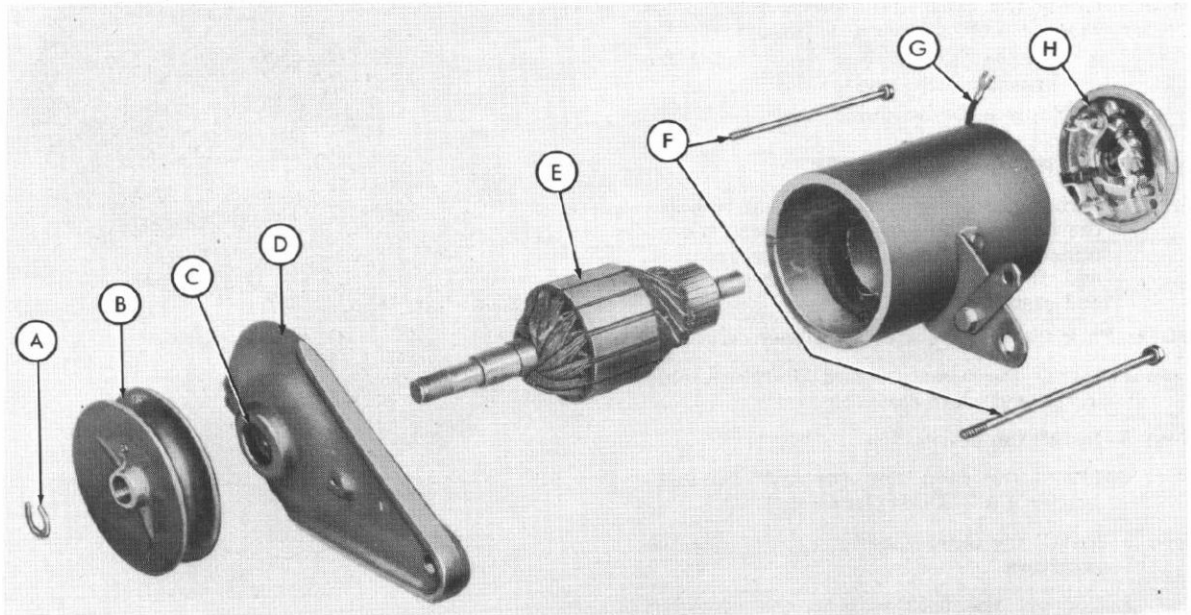

Fig. 1
- Step 1—Remove the two long bolts (F-Figure 1) that secure the generator to the front end plate (D-Figure 1).
- Step 3—Remove the brush end plate assembly (H-Figure 1).
- a. Disconnect the field lead (G-Figure 1) from the brush.